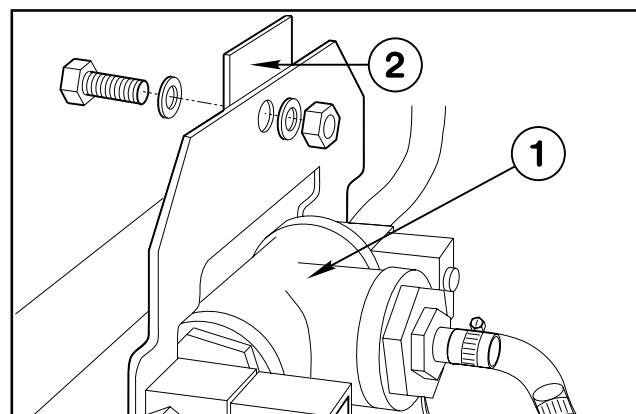

Fig. 2
3. Mount Mixer Assembly to angle on Center Boom Assembly with a 3/8" x 1" hex hd. cap screw, flatwasher, and locknut. Tighten securely. (Fig. 2)